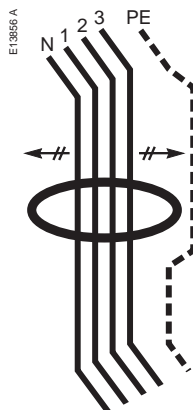

figure 1
- use a toroid with a much larger diameter than the cable going through it 2 x dia (fig.1).